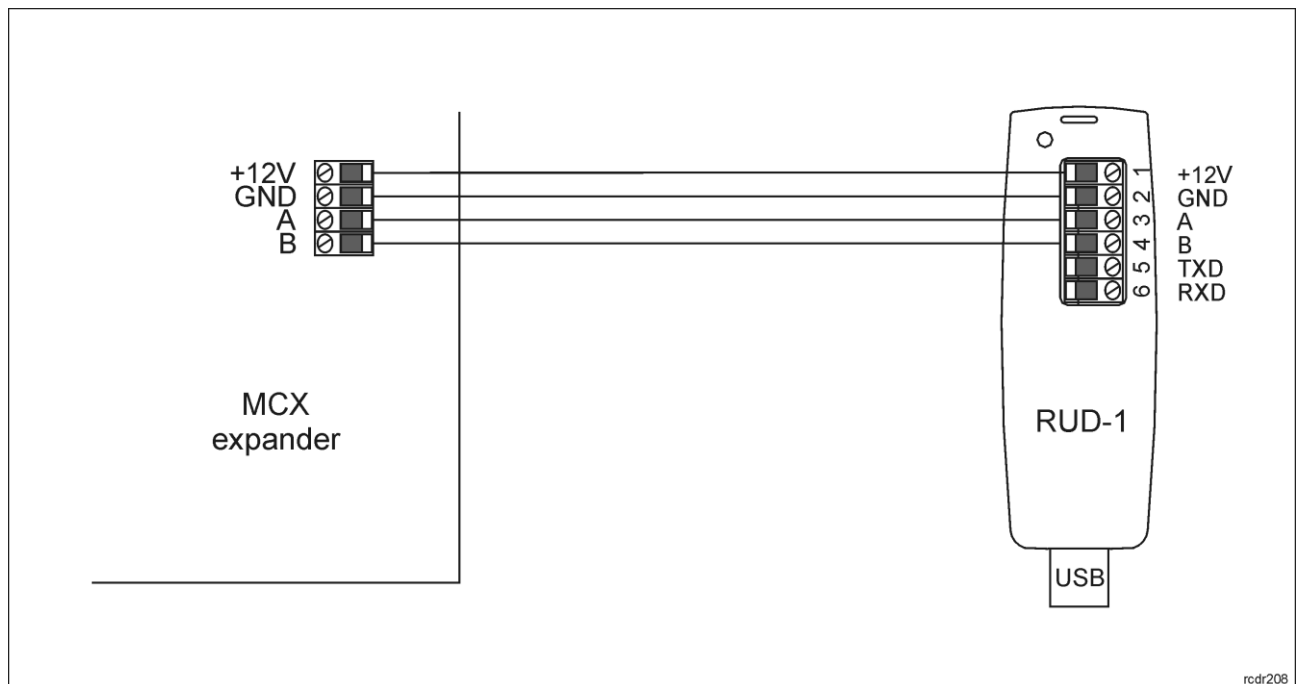

Fig. 8 Connection to RUD-1 interface
1. Connect the device to RUD-1 interface (fig. 8) and connect the RUD-1 to computer's USB port.